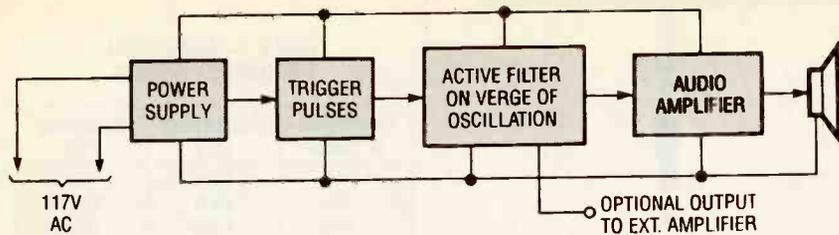

Fig. 1. This block diagram shows the various subassemblies that combine to form the Electronic Gong.
**Circuit Operation.** Figure 1 shows a block diagram of the Electronic Gong, which is comprised of a power supply, an oscillator, an active filter, and an audio-output amplifier.